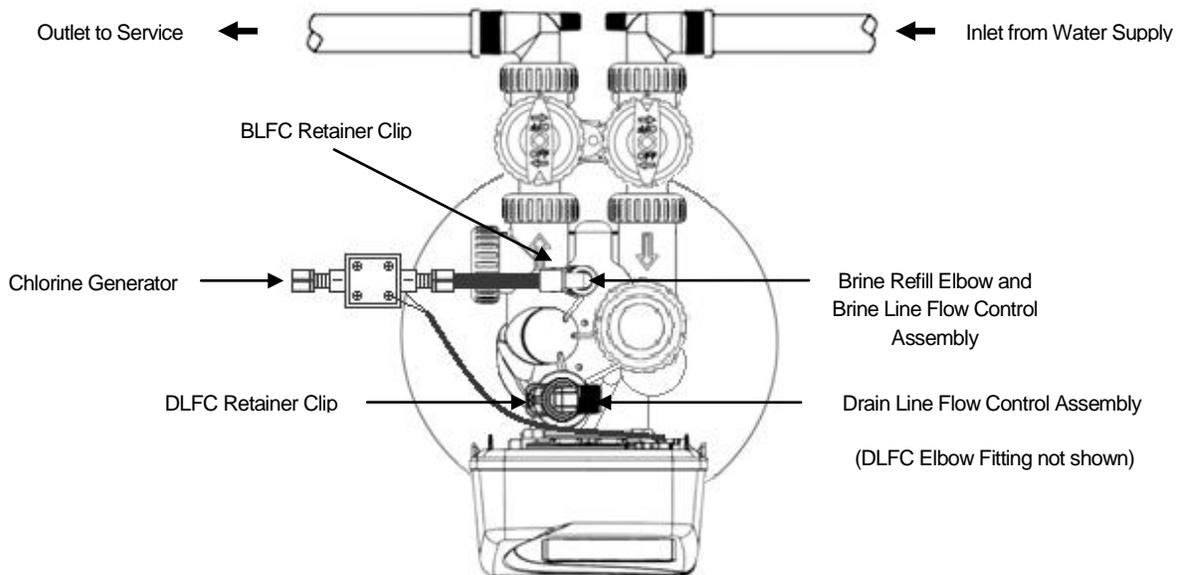
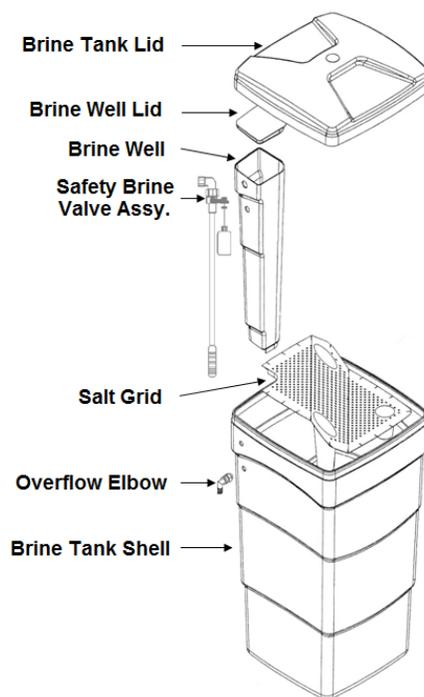

FIGURE 6: Top View of Control Valve with Bypass Installed
FIGURE 7: Brine Tank
- STEP 5:** **Apply thread tape to DLFC Assembly.** Remove drain line flow control (DLFC) retainer clip (Figure 6) and remove the DLFC assembly from the valve body, (Figure 6). Unscrew drain line elbow (not shown) from DLFC. Apply thread tape to threads and re-attach the barbed drain line elbow. Reinsert DLFC assembly into the valve body, making certain it is FULLY inserted before replacing the retaining clip.
- STEP 6:** **Install softener drain line.** Use ½" I.D. polyethylene tubing (**DO NOT USE FLEXIBLE VINYL TUBING!**) to run drain line from control valve barbed DLFC elbow fitting (Figure 6, Page 5, not shown) to floor drain or sump pit capable of handling the backwash rate of the filter (refer to specifications and flow rate on page 15) or discard the barbed fitting and use ¾" NPT fitting to connect a rigid pipe drain line (recommended). If backwash flow rate is greater than 7 gpm, use ¾" drain line. There must be an air gap at the end of the drain line to prevent siphoning of waste water. Length of drain line should be 15' or less. **AVOID OVERHEAD DRAINS.**
- STEP 7:** **Connect brine line between the control valve and safety brine valve.** Install the 3/8" O.D. polyethylene tube from chlorine generator (Figure 6, Page 5) to the safety brine valve (Figure 7) inside the brine tank. **DO NOT INSERT THE BRINE REFILL LINE INTO THE BRINE TANK OVERFLOW ELBOW FITTING. Do not put salt in the tank until STEP 18.**
- STEP 8:** **Install brine tank overflow drain line (not included).** An overflow drain line is recommended where a brine overflow could damage furnishings or the building structure. Your softener is equipped with a brine tank safety float (Figure 7) which greatly reduces the chance of an accidental brine overflow. In the event of a malfunction, however, an overflow line connection will direct the "overflow" to the drain instead of spilling on the floor where it could cause considerable damage. This fitting is an elbow on the side of the brine tank (Figure 7). Attach a length of ½" I.D. tubing to fitting and run to drain. Do not elevate overflow line higher than 3" below bottom of overflow fitting. **DO NOT "TIE" THIS TUBE INTO THE DRAIN LINE OF THE CONTROL VALVE AS IT WILL RESULT IN OVERFILLING THE BRINE TANK AND FLOODING.** The overflow line must be a direct, separate line from the brine tank overflow elbow to a floor drain or sump pit.